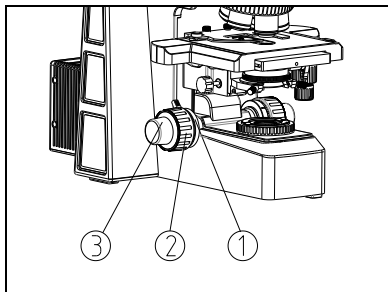

Fig.14
(1) Put the slice on the stage, and hold it down with the clip. Shift the 4X objective into the light path. (See Fig. 14)